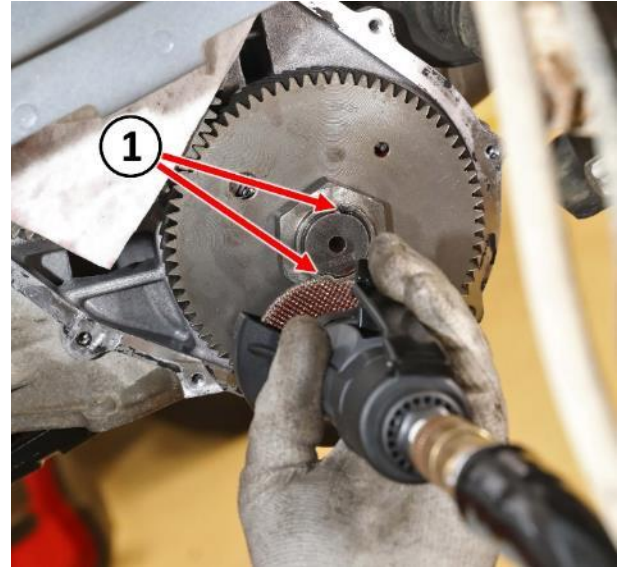

Figure 21 – Grind Off Stakes
- 32. Grind the stakes (1) off transfer gear nut (Figure 21).